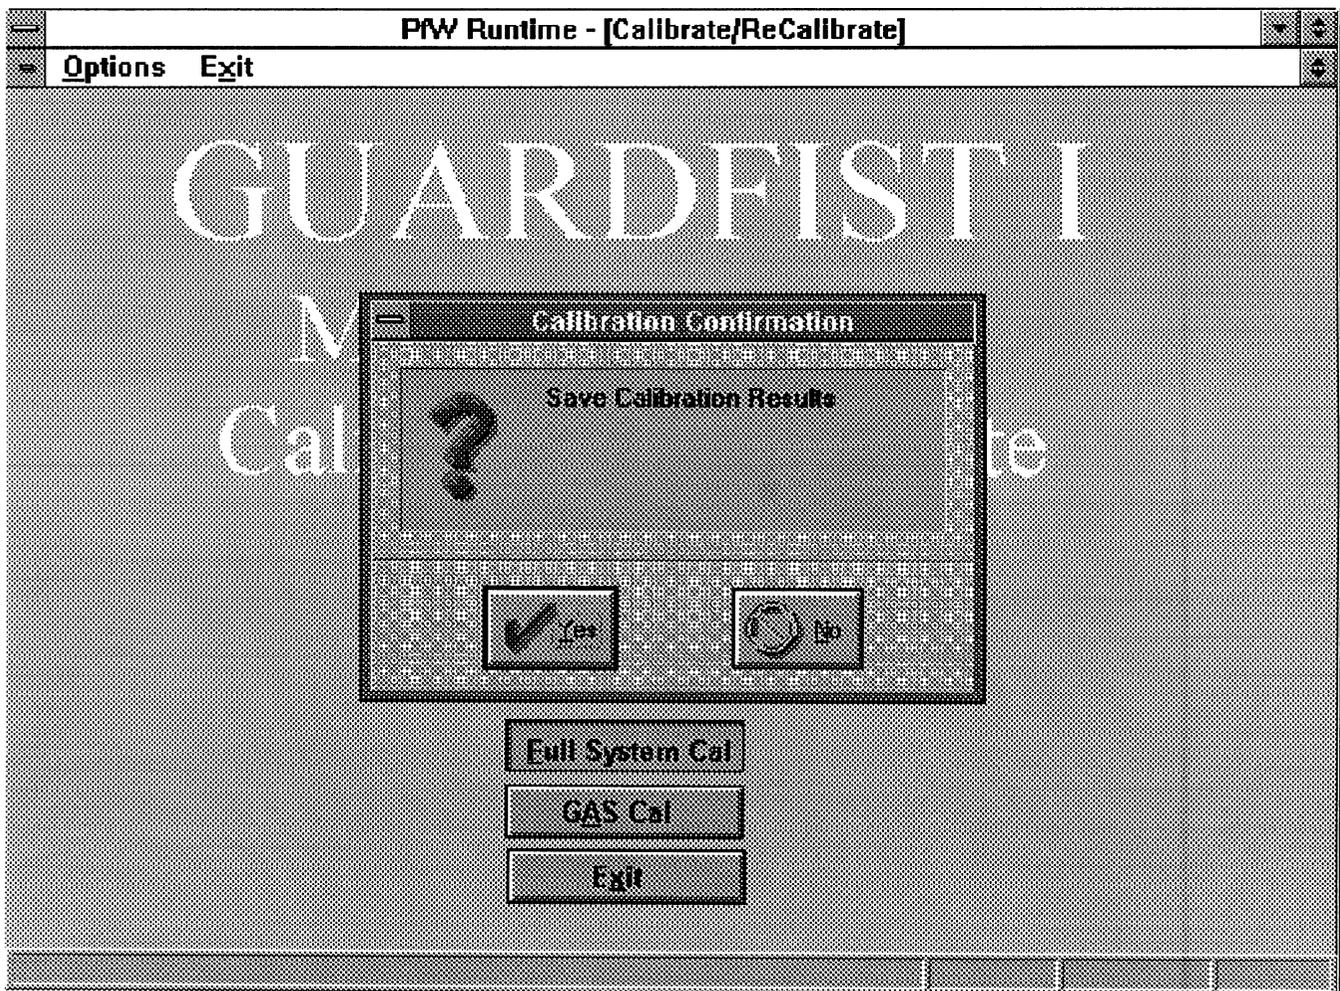

Figure 2-100. Save Calibration Results Screen
- (2) If all controls have been calibrated, the Save Calibration Results Screen, Figure 2-100, displays.